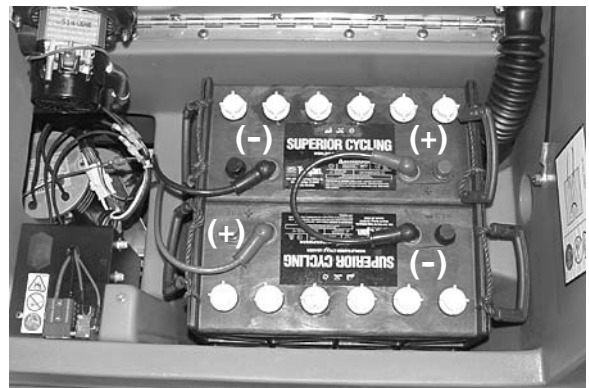

FIG. 2
3. Carefully install batteries into battery tray at bottom of compartment and arrange battery posts as shown (Figure 2).
5. Connect battery cables to battery posts as shown (RED TO POSITIVE & BLACK TO NEGATIVE) (Figure 2).